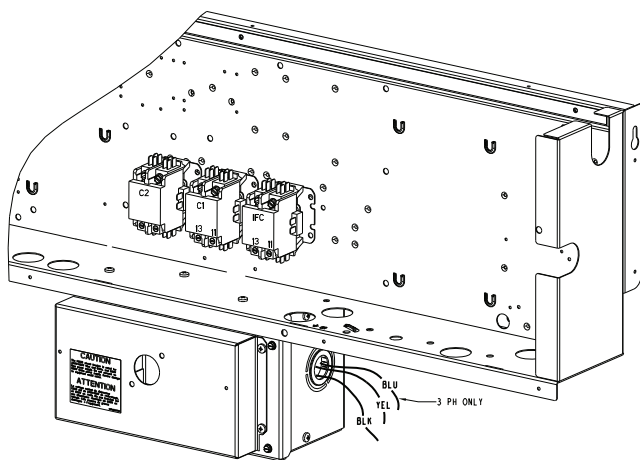

Fig. 30 — Location of HACR Enclosure
1. Remove the Control Box access panel. The HACR enclosure is located below the Control Box (see Fig. 30).